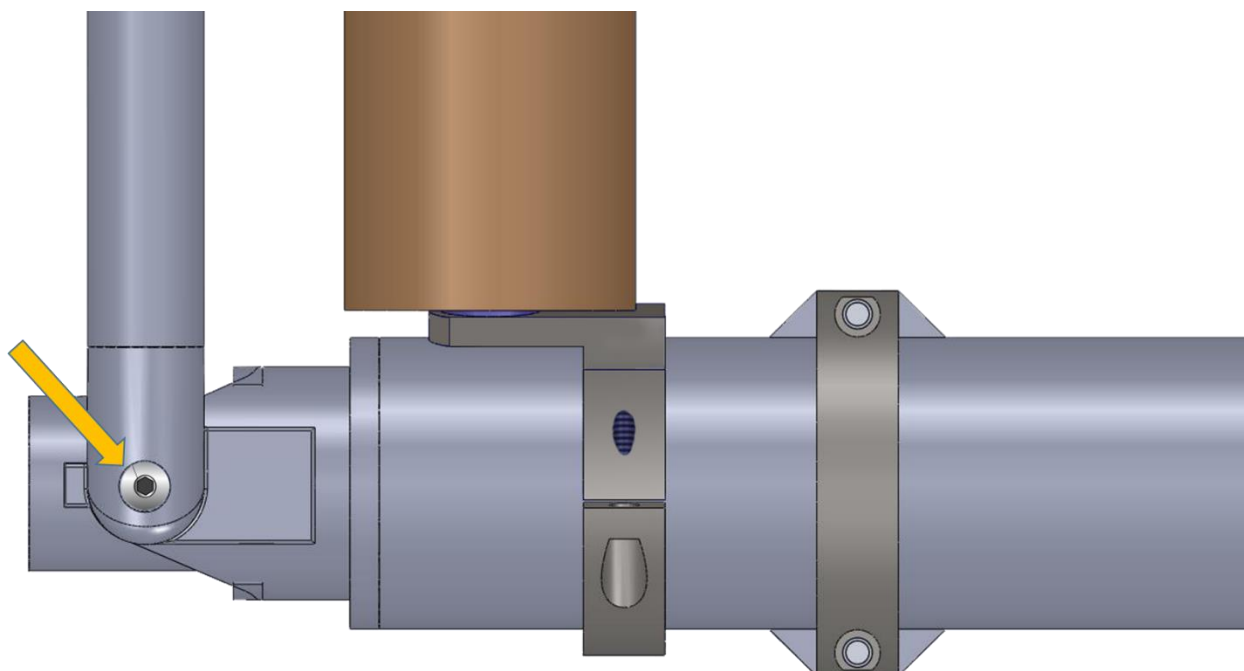

Figure 13: Installing the Mid Crossbar
- b. Attach the mid crossbar onto actuators mid crossbar tab and secure in place using two  $\frac{1}{4}$  - 20 x  $\frac{1}{2}$  socket head cap screws. (See figure 13.)